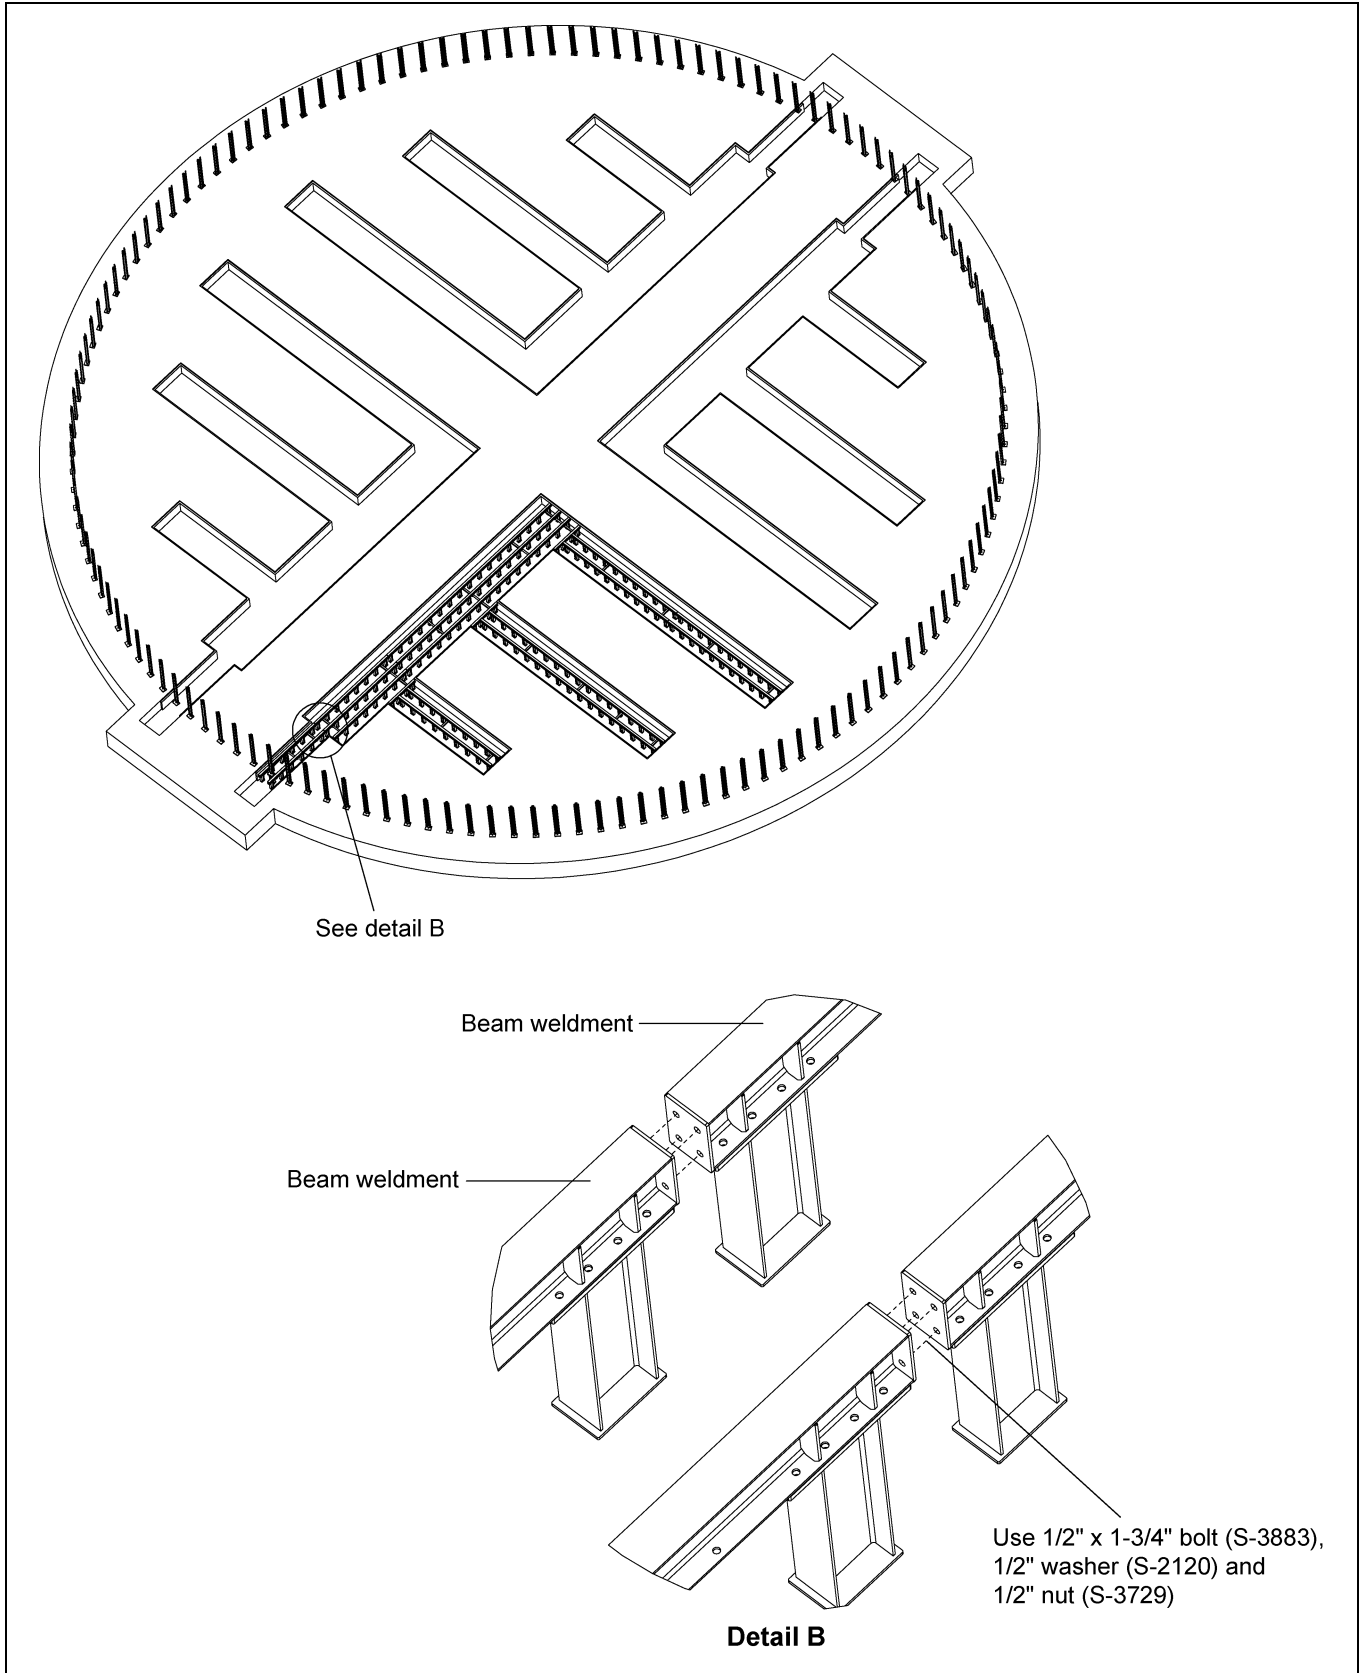

Figure 2C
3. Use 1/2" hardware to attach beams end to end. (See Figure 2C.)